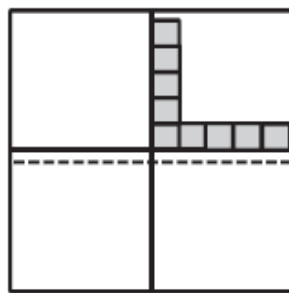

Figure 2
- Either measure or dry-lay a row of tiles from the center line to the side wall to determine the size of the first and last tiles. If the resulting border is too small in either direction, move the row of tiles over one-half tiles' width and snap a new line. This becomes your new starting line. (See Figure 2)